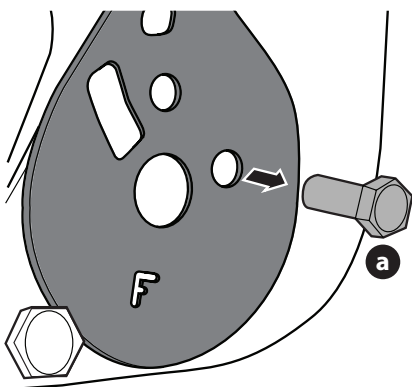

Fig. 11
5. Remove the screw (a) securing the recliner plate in the seat back position (Fig. 11).